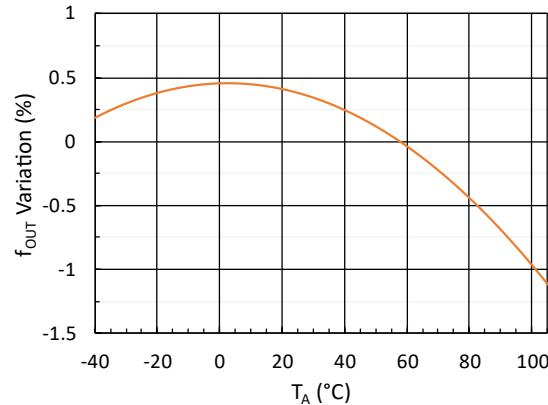

Figure 12: Output frequency variation vs operating free-air temperature
(1) Specification is assured by design and characterization data.
(2) PARCAP[7:0] bits can be adjusted to reduce power consumption for DC output.
(3) See Figure 12 for output frequency variation as a function of temperature.